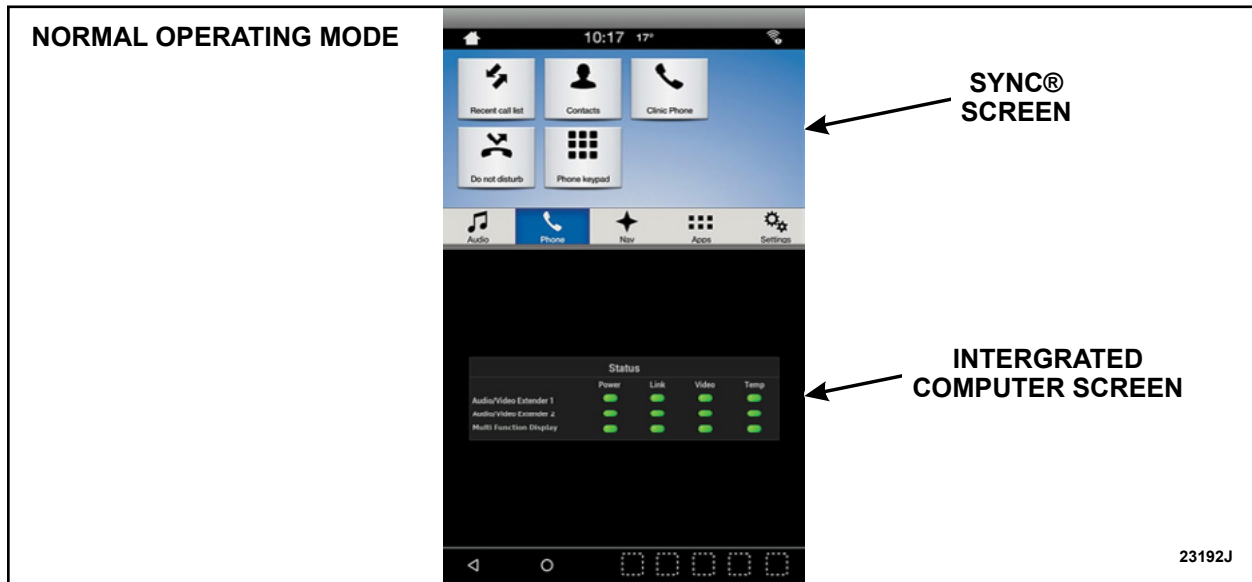

FIGURE 10
- Once the reboot is complete, the display will show the normal operating mode with the SYNC® screen displayed at the top. See Figure 10. Turn off the vehicle, open the driver door to until the display turns off. This may take up to 1 minute.